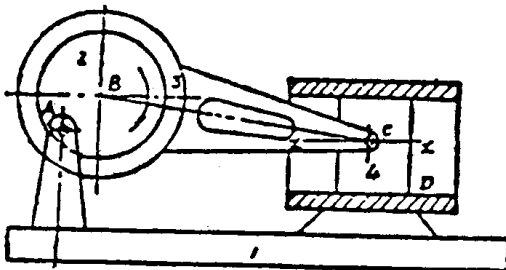

Figure 1-1
1. Select the eccentric wheel as the driving link and rotate slowly. Distinguish the mechanism is composed by which components according to the relative movement between the links. In Figure 1-1, the mechanism is composed by 1 - rack, 2 - crank, 3 -link, 4 - slider.
2. Observe the relative movement characteristics between links carefully from the driving link according to the mechanism motion transfer sequence. Determine the type and number of kinematic pairs. In Figure 1-1, crank 2 is driving link, the motion